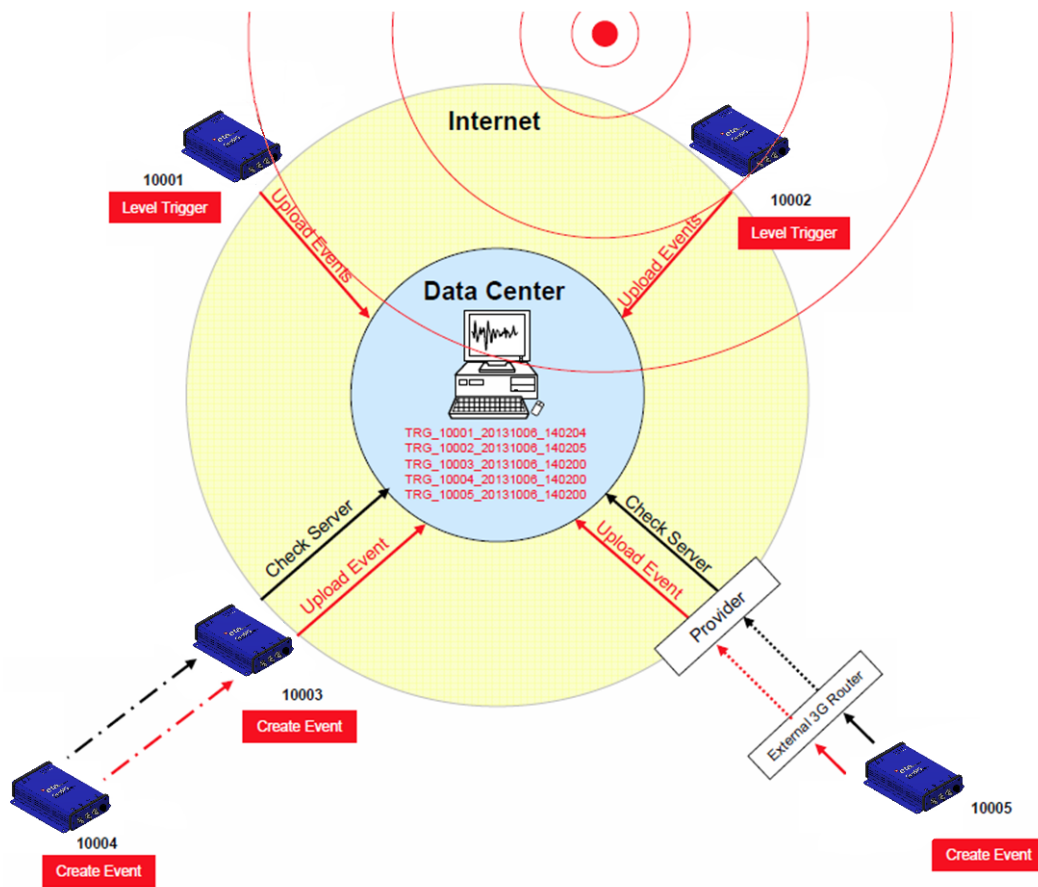

Figure 21: Behaviour on Events: Upload of extracted events
- All instruments will download the request during the next time checking the server (see Figure 21)
- The extracted event file will be uploaded to the data server (see Figure 21)